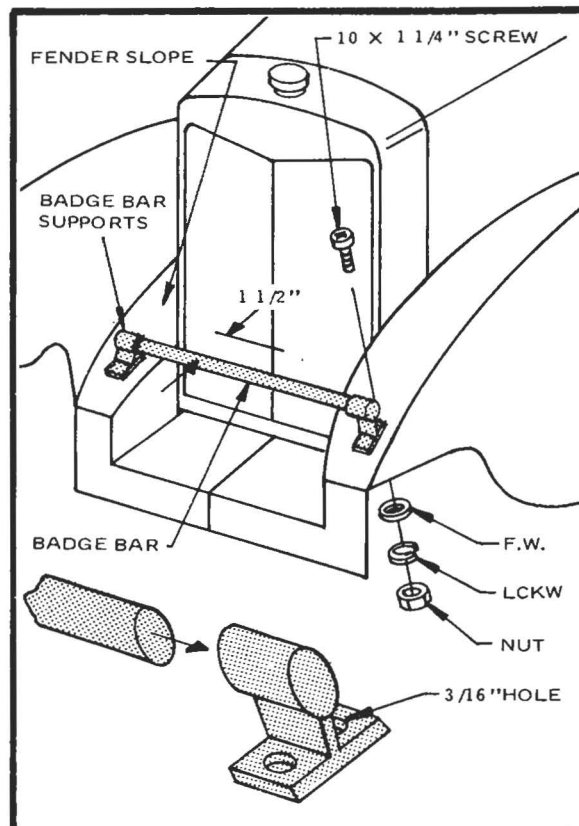

Figure 69
- ☐ Insert main bow through pocket in top with secondary bow projecting forward. Be sure to slide bow through straps. These are inserted through the slits on the forward edge of the pocket. Figure 69) Measure for location of bow mounts as indicated. Center the mounting foot over this point and mark hole locations. Drill 1/8" holes with No. 10 x 1" oval head self-tapping screws. (Figure 69A, 69B)